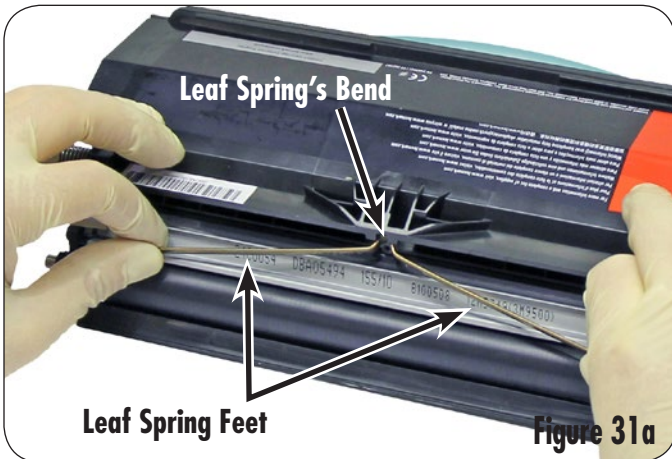
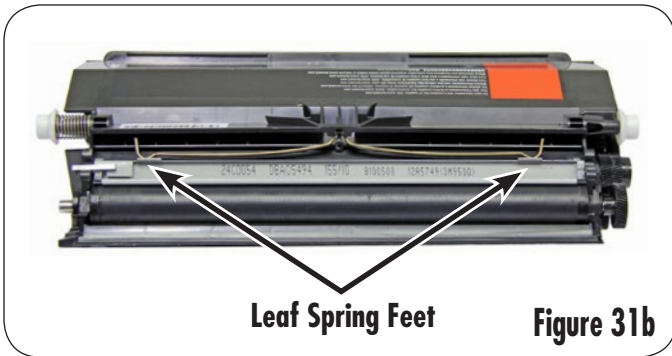

Figure 31a
Figure 31b
- While holding each of the leaf spring feet, insert the center bend into the seat on the toner hopper as shown in Figure 31a. Using minimal pressure, push up on the leaf spring feet until they can be positioned on the top of the doctor bar as shown in Figure 31b.